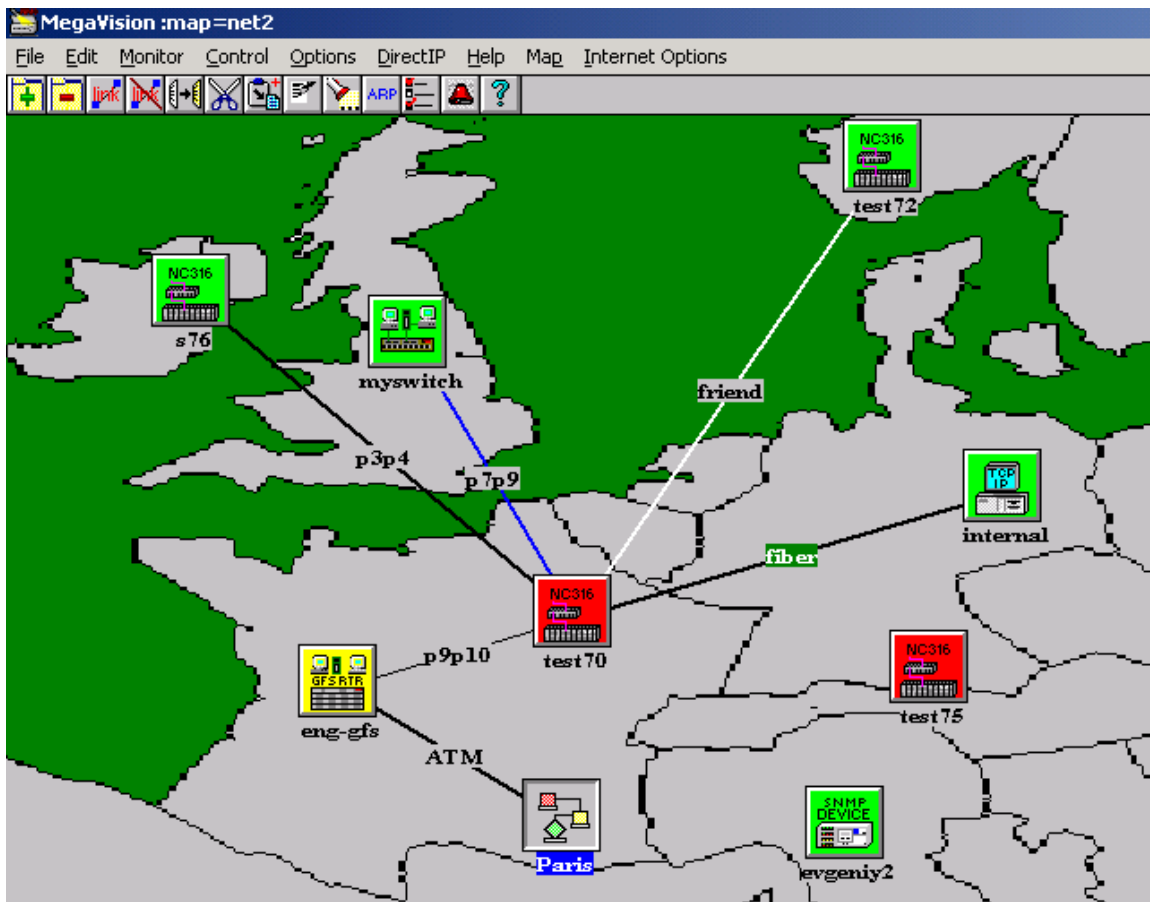

Figure 3. Main Window
- You can drag and drop any device icon into a submap icon. Double-click on a submap icon to open the corresponding submap. (e.g. see “Paris” icon on Figure 3.)